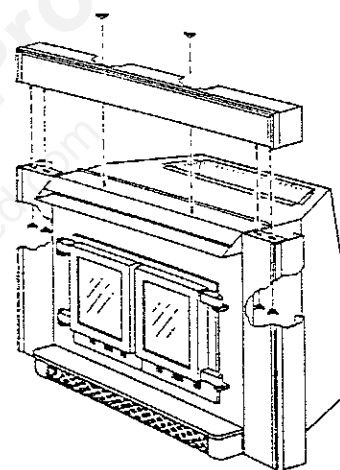

Fig. 7 Top Trim Assembly
3. Place the top section of the Fireplace Heater trim in place as shown in Figure 7. Using two wing nuts at each end, fasten the top trim to the side trim pieces, then install the remaining two wing nuts on the bolts in the center of the top trim and tighten all of the wing nuts securely (Fig. 7).